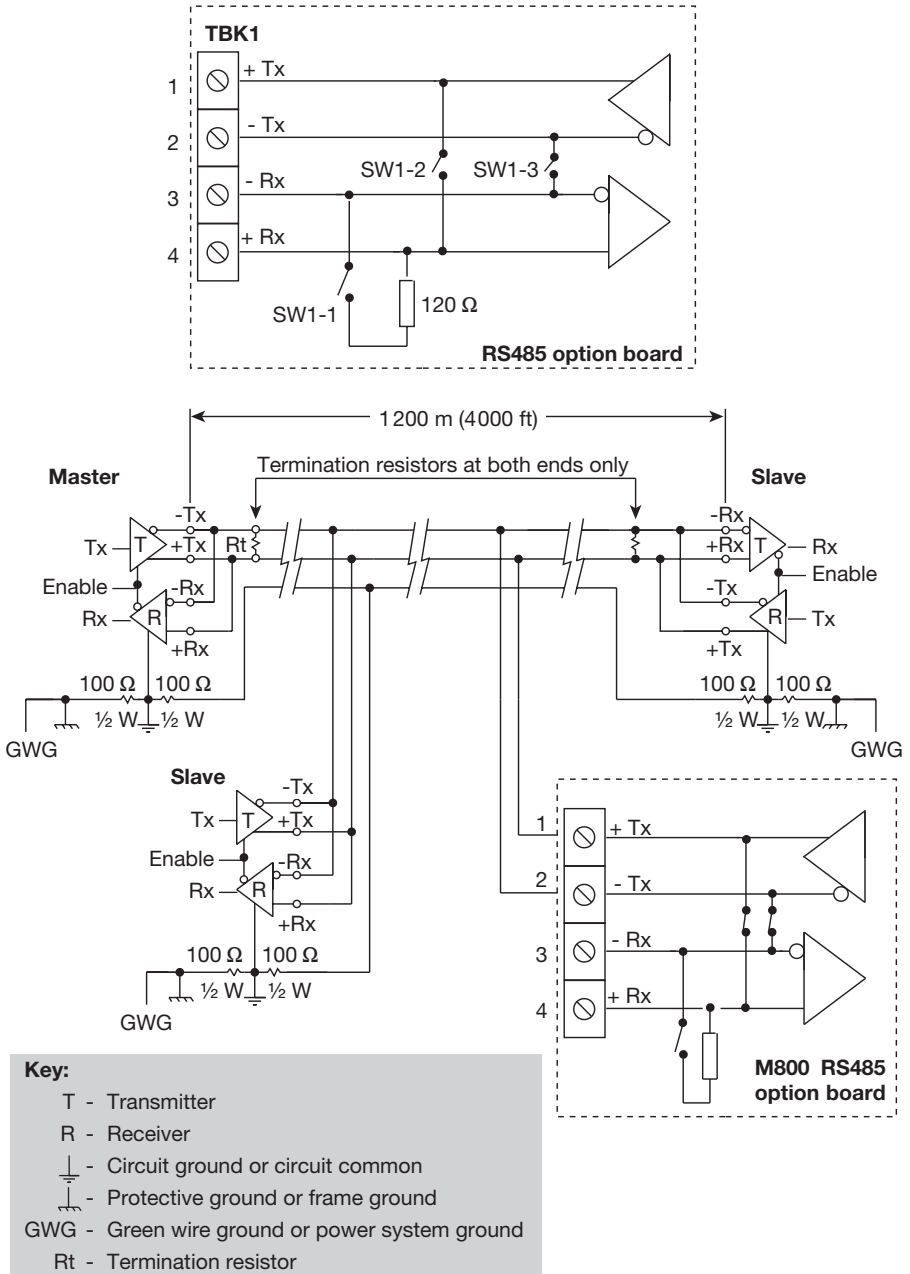

Fig. 26 Typical RS485 two-wire multi-drop network
- See Figure 26, for a typical installation.